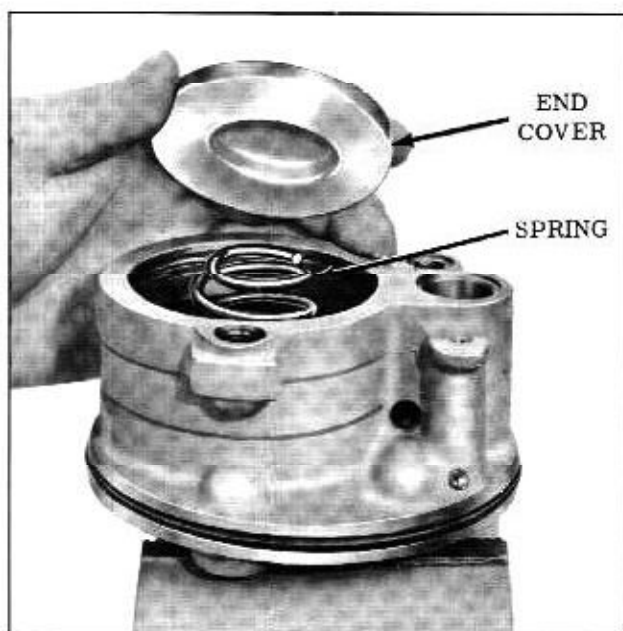

Fig. 4-64 Installing Cover
9. Install pressure plate spring in recess of pressure plate. (Fig. 4-64)